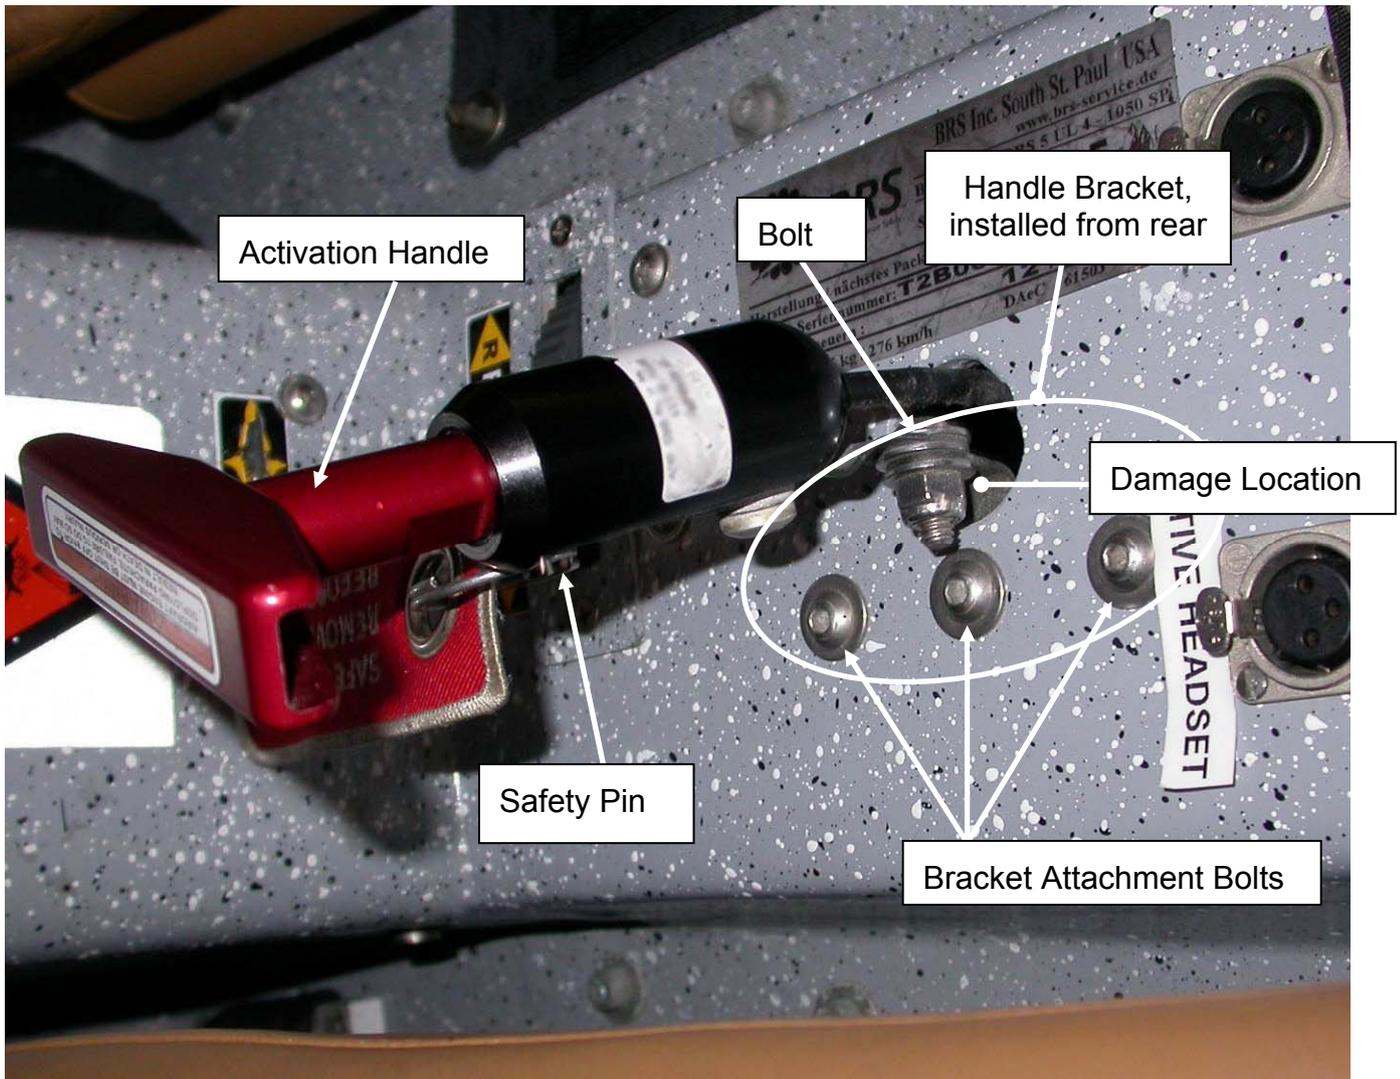

Fig.1 - Handle Installation from Cabin Side.
Inspect the BRS handle bracket for the absence of cracks in the bend radius at the base plate. See Fig. 1 for identification of the bracket.
**▲ Warning:** In case of doubt remove the handle bracket for a better inspection possibility. Fig. 1 above shows the bolts that are required to be removed in order to remove the bracket. For re-installation, use new self-locking nuts and apply tamper proof torque marker.
- Remove the old bracket by removing the bolts identified in Fig. 1.